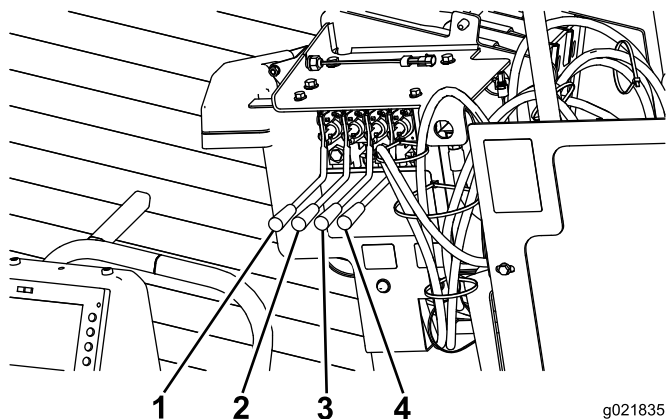

Figure 75
11. Press the 2 right stake levers in to lower and spin the right stake auger until it seats fully (Figure 75).